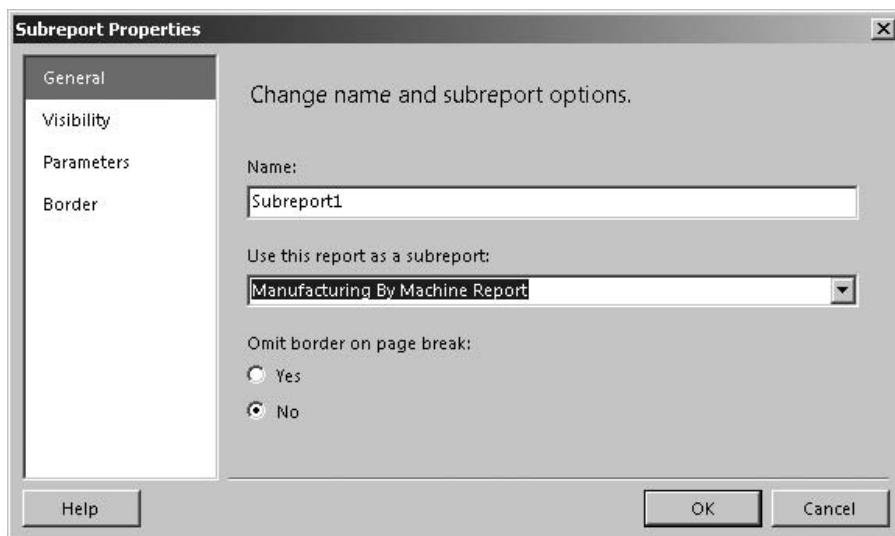

Figure 16-57 The General page of the Subreport Properties dialog box
83. The Use this report as a subreport drop-down list enables us to select another report from this report project that should appear inside the report we are editing. Select Manufacturing By Machine Report from this drop-down list. The General page of the Subreport Properties dialog box appears, as shown in Figure 16-57.